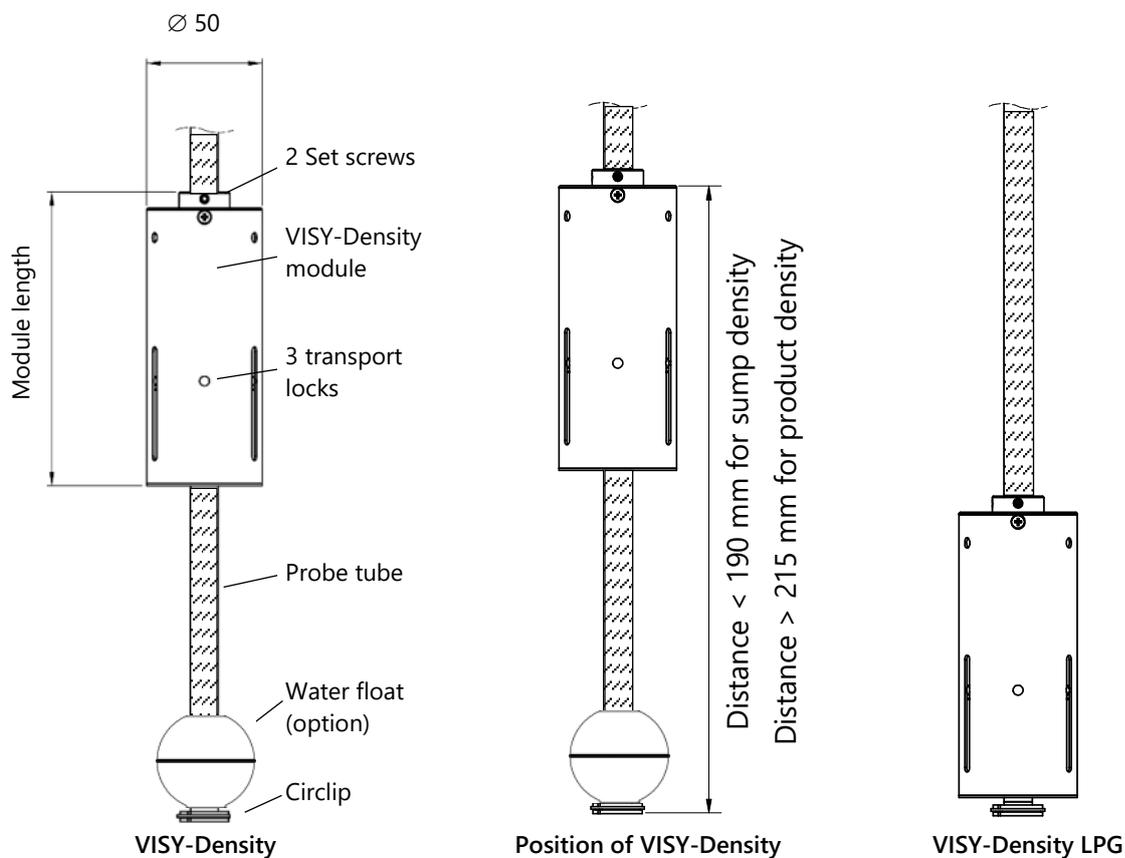

Figure 1: VISY-Density and VISY-Density LPG
Depending on the position of the VISY-Density module on the probe tube, either the product density or the sump density is determined, see Figure 1.
- 8th Fix VISY-Density (LPG) with the 2 setscrews at the appropriate height of the probe tube depending on the application (see Figure 1):
- 9th Fix VISY-Density with the 2 setscrews at the appropriate height of the probe tube depending on the application (see Figure 1):
- 5th Fix VISY-Density (LPG) with the 2 setscrews at the appropriate height of the probe tube depending on the application (see Figure 1):